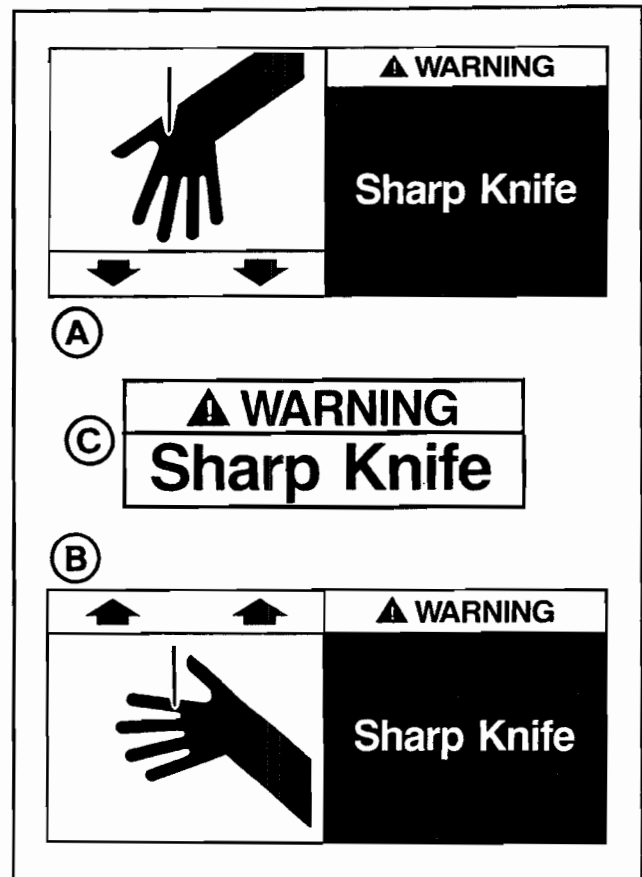

Figure 1-1 – Knife Warning Labels
The two illustrated labels (A-B) "Warning Sharp Knife", shown in Figure 1-1, are attached to the sides of the upper taping head frame at the location of the cut-off blade on the upper taping head. Two of the same labels are attached to the machine bed at the location of the cut-off blade on the lower tape head. The labels warn operators and service personnel of the very sharp knife used to cut the tape at the end of the tape application.
The "Warning – Sharp Knife" label (C) shown in Figure 1-1, is attached to the orange colored cut-off blade guard on both taping heads. The label warns the operator and service personnel of the very sharp knife located behind the guard and to keep hands out of this area except for tape loading and/or servicing the taping heads.